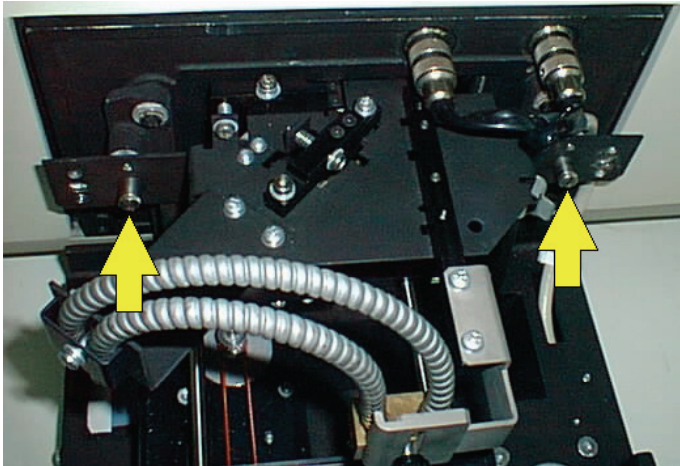

Figure 58 Optical assembly screws
5. Unscrew the two fixing screws and remove the optical assembly, as shown in Figure 58.